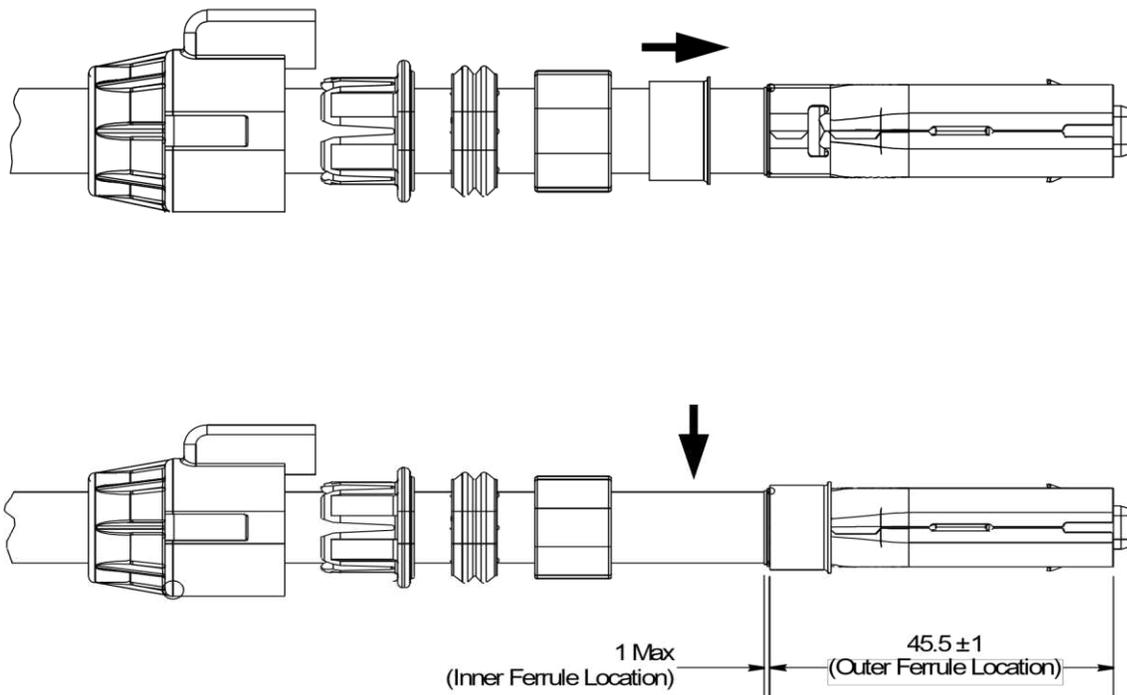

Figure 12
- 3.6.9. Slide the outer ferrule forward into position over the overlapping ends of the connector shields as shown in Figure 12.